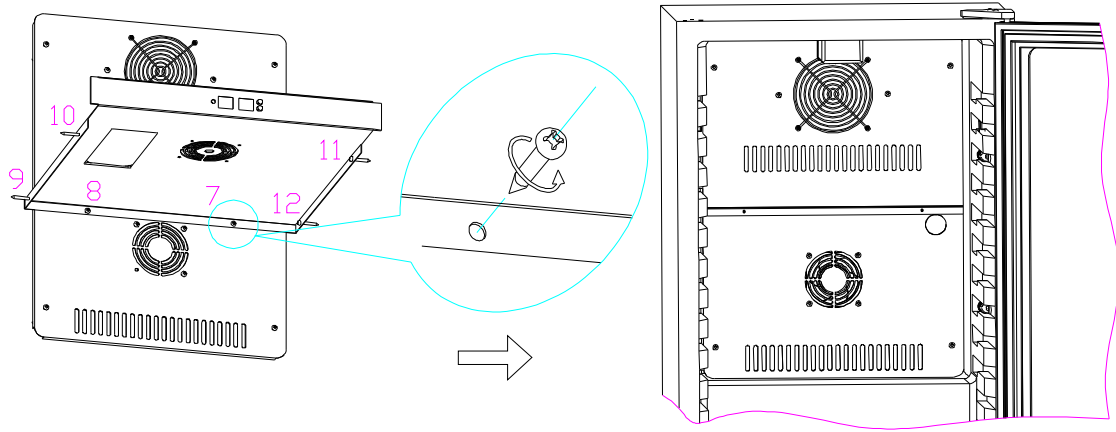

Fig.12
c. Remove the fixing screws (7,8,9,10,11,12), then pull out electric box (C) to expose the air duct board; (Fig.12)